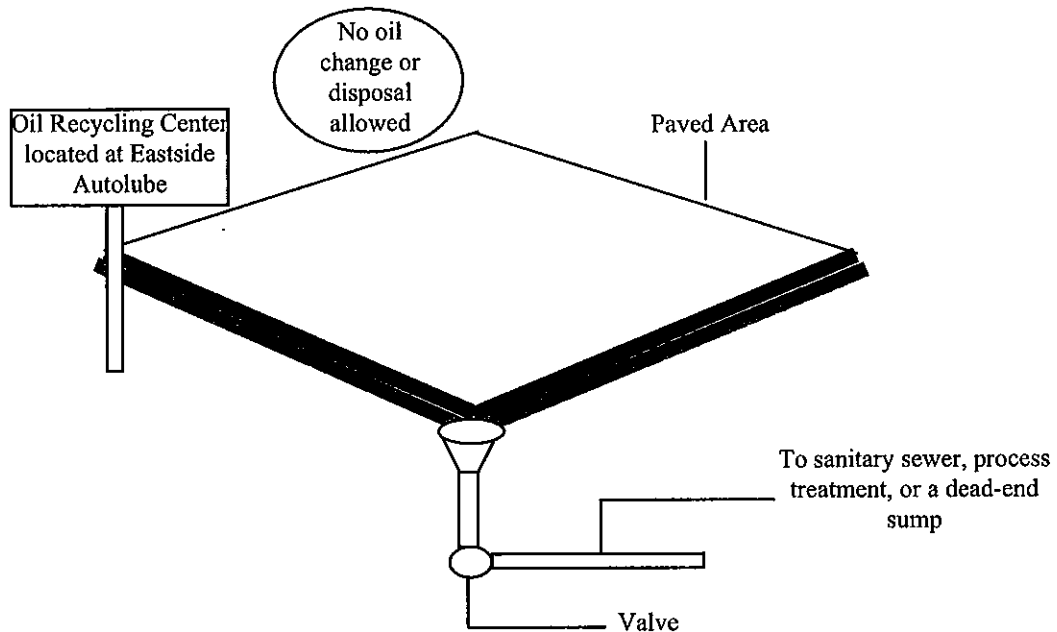

Figure 1. Requirements for an Uncovered Wash Area
- The wash area should be well marked at gas stations, multifamily residences, and any other business where vehicles may be washed by nonemployees. Included in the posting will be a statement forbidding the changing of oil in the wash area and the location of the nearest oil recycling facility. See Figure 1 for an illustration of these requirements.